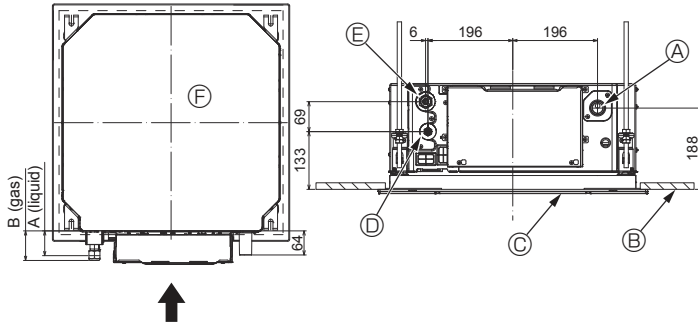

Fig. 5-7
5.4. Refrigerant and drainage piping locations (Fig. 5-7)
- (A) Drain pipe
- (B) Ceiling
- (C) Grille
- (D) Refrigerant pipe (liquid)
- (E) Refrigerant pipe (gas)
- (F) Main unit